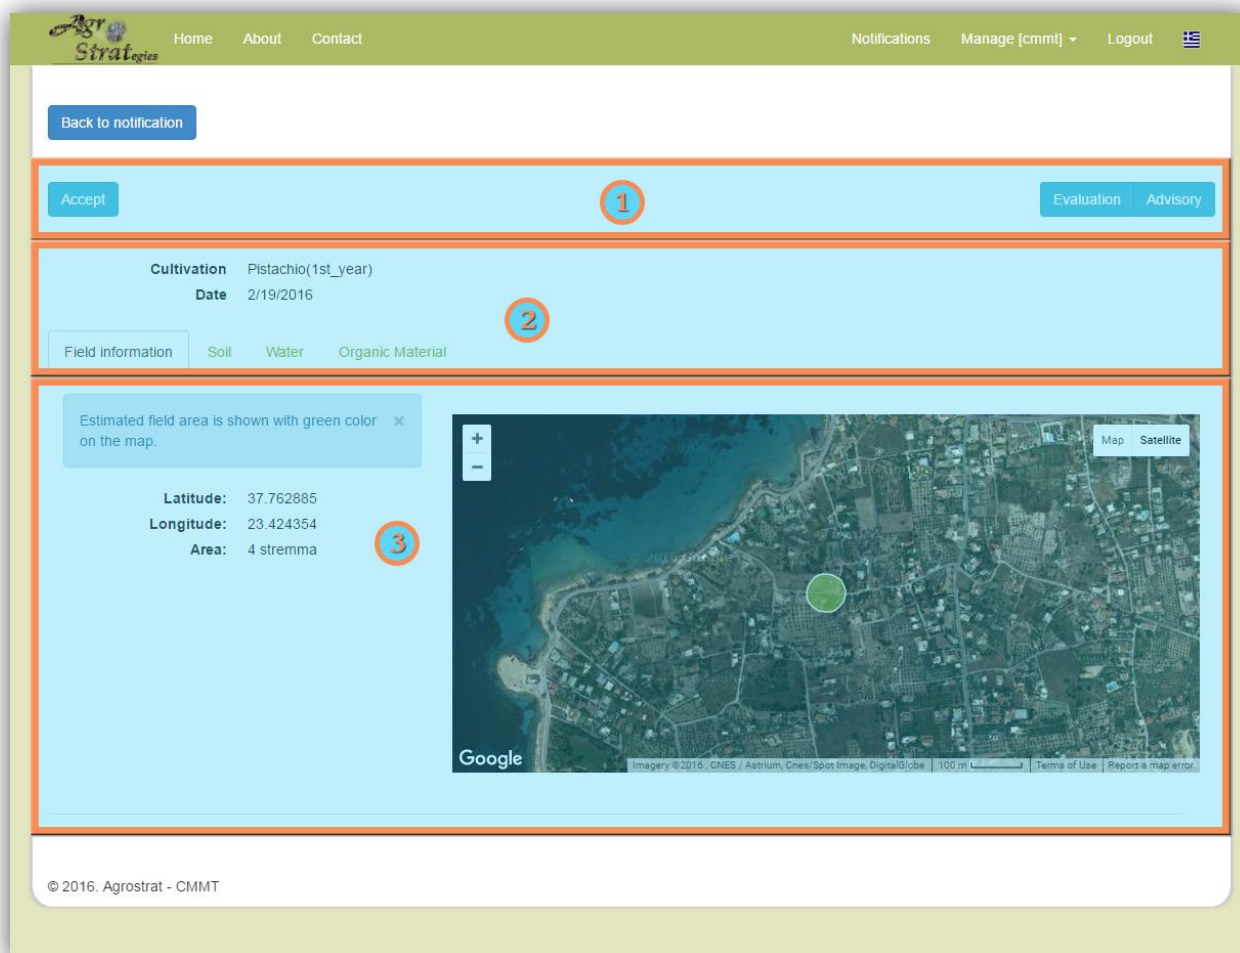

Figure 8. Notification's measurement data main screen
When a CMMT user clicks on the “View” button of a specific notification’s measurement in the list (Figure 7), the corresponding measurement data main screen is displayed, as illustrated in Figure 8.
As you may have already noticed, the measurement data main screen is similar to the one of the Notification's measurement data main screen (Figure 8). However, edit and delete actions are now available (2), since the respective measurement now exists in the system's database.